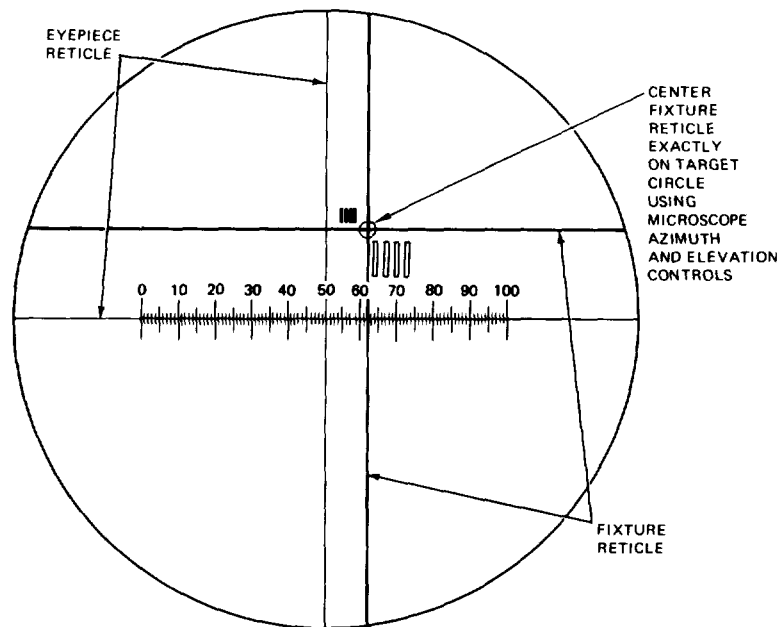

Figure 2-9.3. Fixture Reticle Alinement
(23) Select MTF target on AN/TAM-3 thermal sight collimator.
(24) Using azimuth and elevation adjustment knobs (3 and 4, figure 2-4.1) center fixture reticle on target circle as shown in figure 2-9.3. Tighten fixture azimuth and elevation locks (14 and 13, figure 2-4.1).